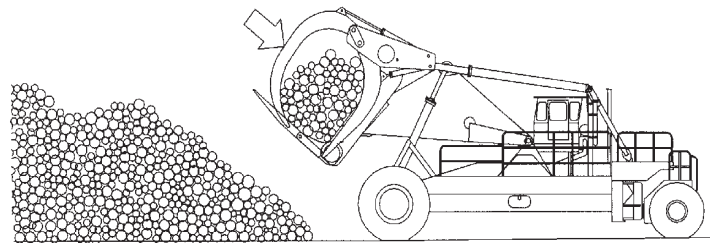

Figure 5-19
4. Tilt the carriage back fully and tightly clamp the load. Back away and lower the load (See Figure 5-19).